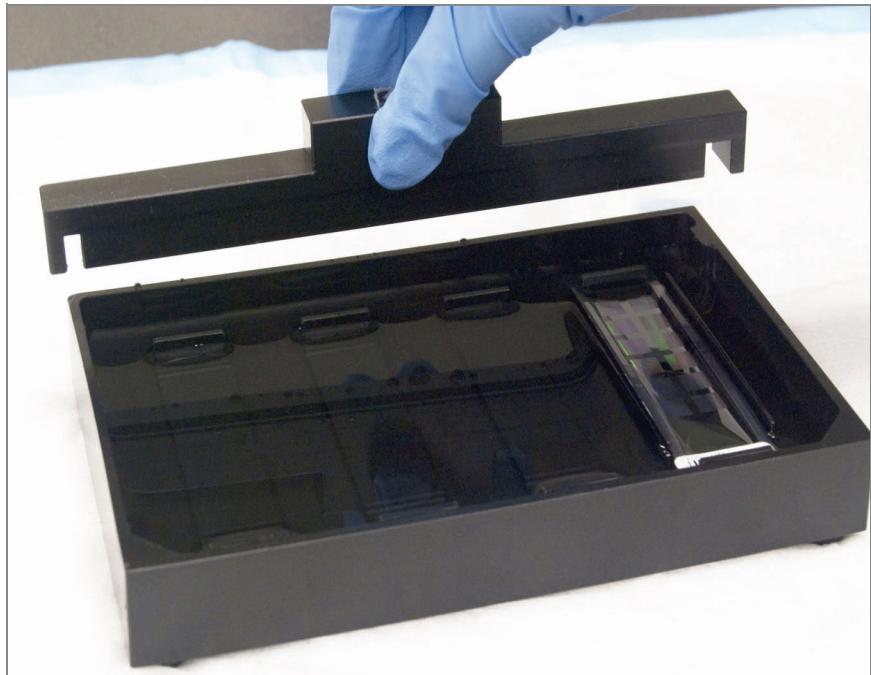

Figure 166 Placing Alignment Bar onto Alignment Fixture
5. Place the Alignment Bar onto the Alignment Fixture (Figure 166).